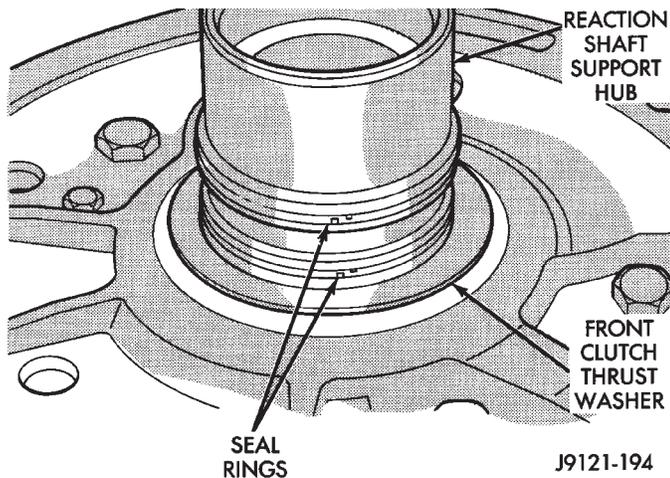
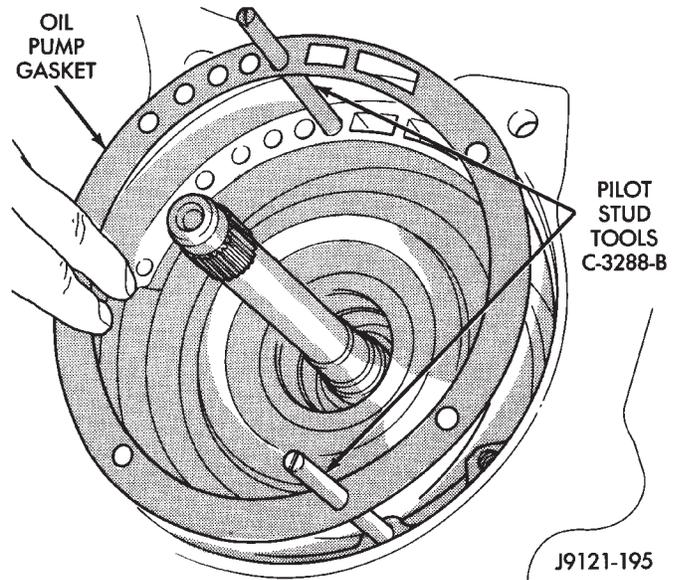

Fig. 147 Reaction Shaft Support Seal Rings And Front Clutch Thrust Washer
Fig. 148 Installing Pilot Studs And Oil Pump Gasket
- (23) Check seal rings on reaction shaft support hub. Verify that seal rings are hooked together and that front clutch thrust washer is properly positioned (Fig. 147). Use petroleum jelly to hold thrust washer in place if necessary.
- (24) Lubricate oil pump body seal with petroleum jelly. Lubricate pump shaft seal lip with petroleum jelly.
- (25) Thread two Pilot Stud Tools C-3288-B into bolt holes in oil pump bore flange (Fig. 148).
- (26) Align and install oil pump gasket (Fig. 148).